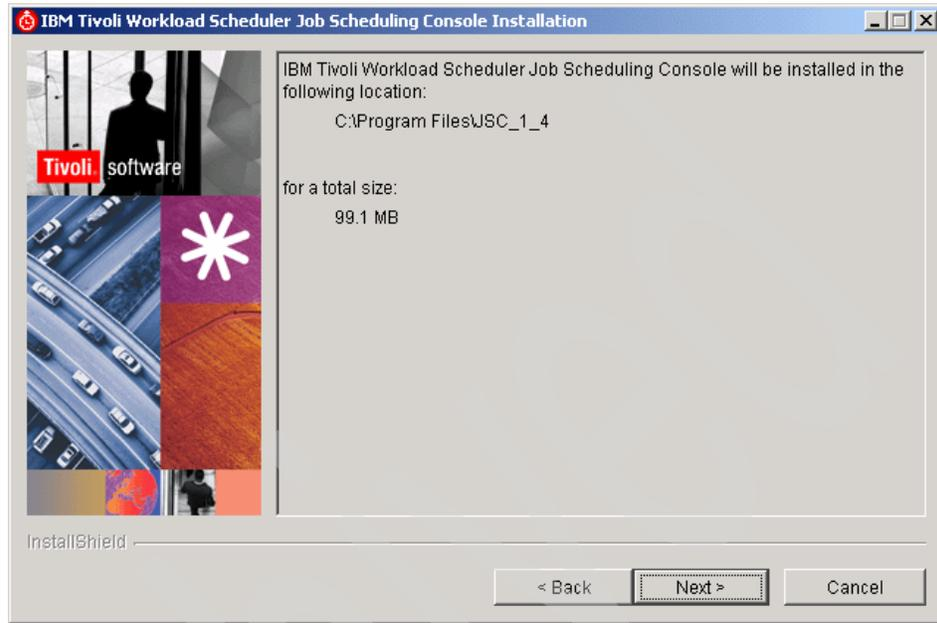

Figure 16-15 Installation confirmation of JSC 1.4
7. Confirm the installation directory of JSC Version 1.4 and indicate the amount of space that will be used for the install (Figure 16-15) and click **Next**.